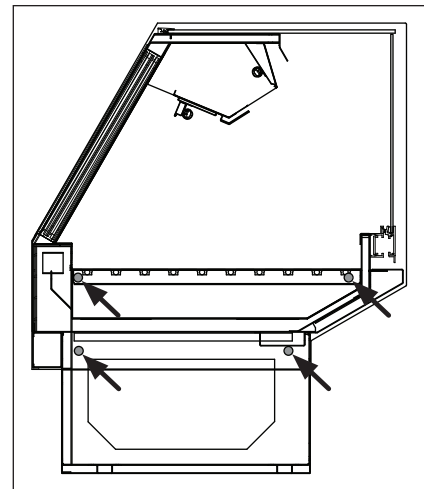

Fig. 3 Bolt locations
4. Push the cases tightly together, then lightly bolt them together through the holes provided (Fig. 3). Tighten all the joining bolts until all margins are equal. Be careful not to over tighten.